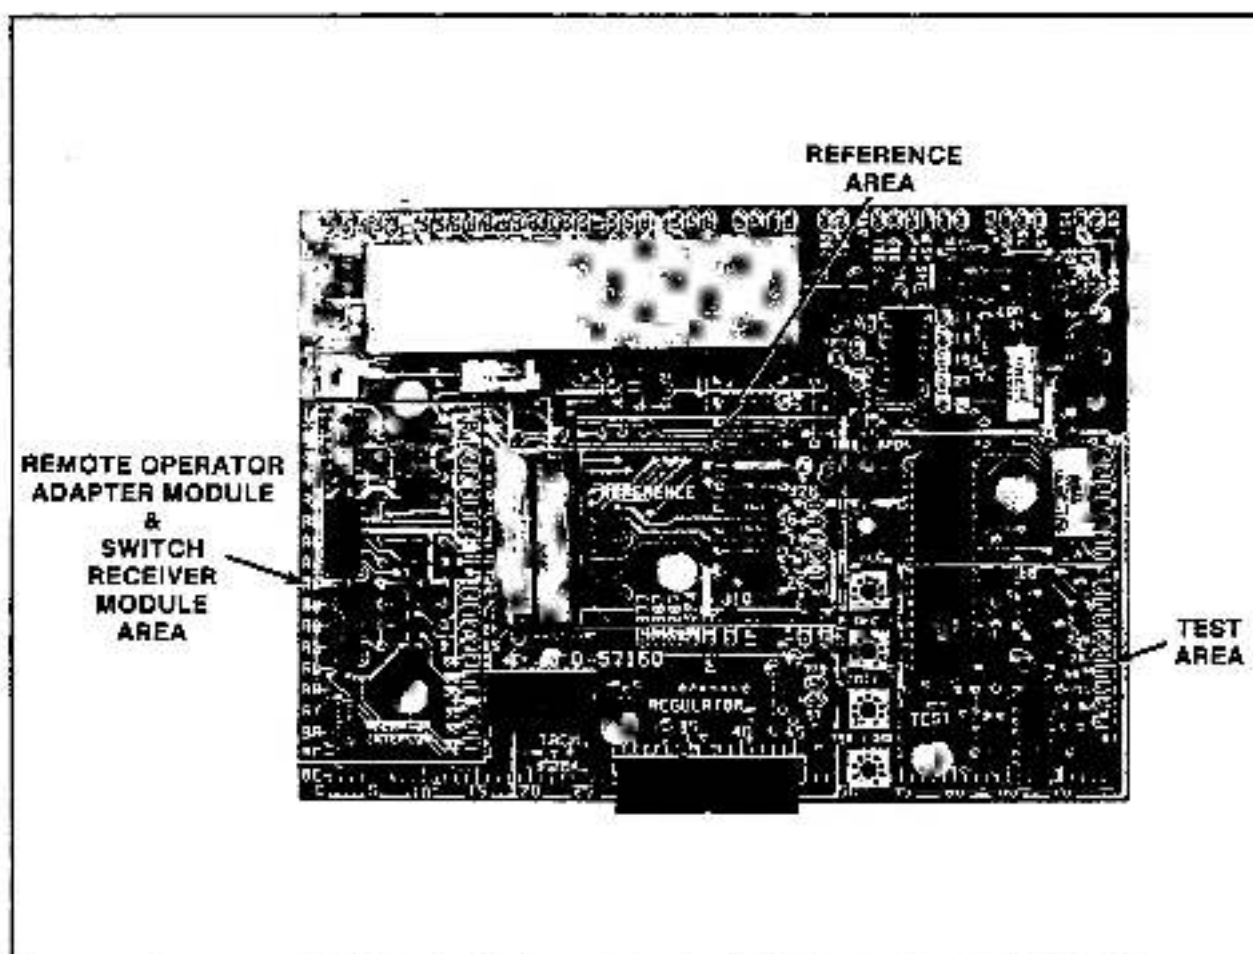

Figure 2 - Regulator Module Kit Locations
2. Orient the Module over the dedicated area marked REFERENCE on the Regulator Module, just over the five pins. (Refer to Figure 2). Lower it so that the pins pass through the guides on the Module. Use the screw to secure it.